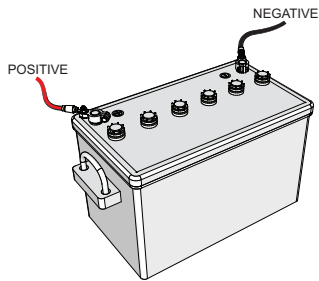

Figure 34. Battery Connections
**ALWAYS** make sure the battery cables are properly connected to the battery terminals as shown in Figure 34. The **red cable** is connected to the **positive terminal** of the battery, and the **black cable** is connected to the **negative terminal** of the battery.